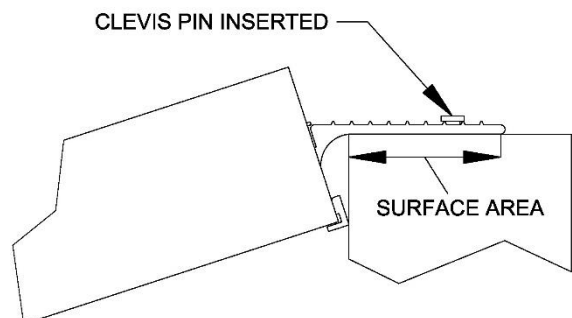

FIG. 4
5. Ensure that the surface area of each top lip transition plate fully overlaps a secure, unobstructed, level landing enough to safely install clevis pins (provided) or other anchoring hardware and rests firmly against the landing (FIG. 4).
- a. TEMPORARILY: To attach temporarily using the provided clevis pins, position the ramp securely and use the hole in each top lip transition plate as a template to drill corresponding 1/4" holes into the upper landing (ensure drilled holes are deep enough to fully seat each clevis pin). Fully insert a clevis pin (FIG. 4) through the pre-drilled hole in each top lip transition plate and into the corresponding drilled holes in the landing.
9. Ensure that the surface area of both top lip transition plates fully overlap a secure, unobstructed, level landing enough to safely install clevis pins (provided) or other anchoring hardware, and rests firmly against the landing (FIG. 4).